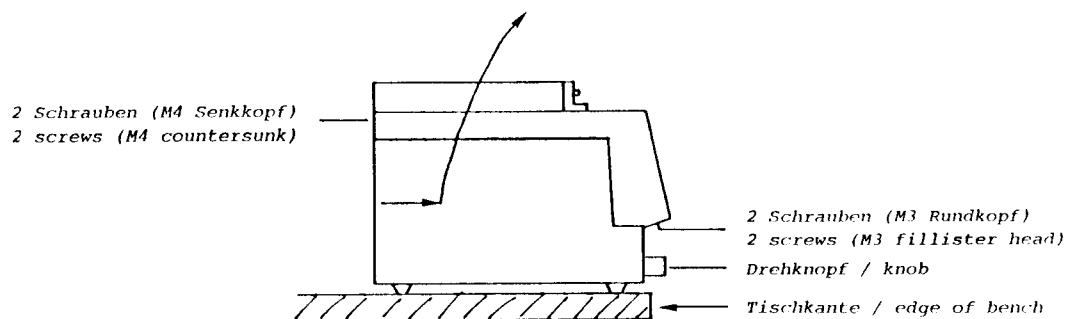

Fig. 4-6
- Place instrument over edge of bench to allow the M3 screws to be removed (Fig. 4-6)